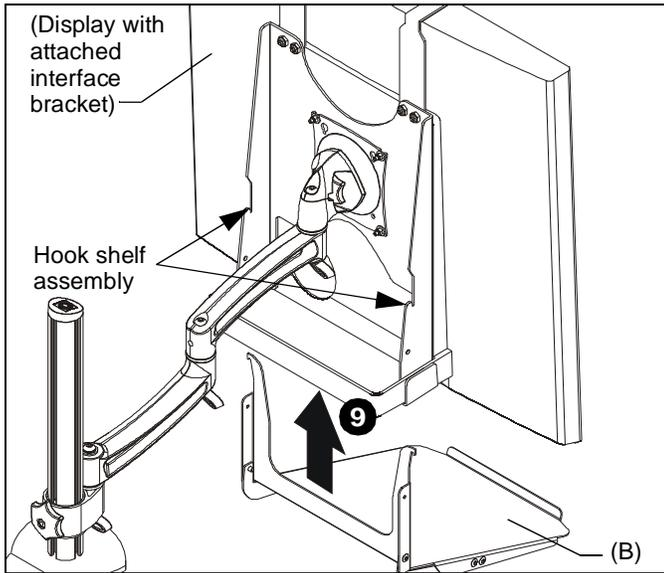

Figure 5
9. Lift shelf assembly (B) up from below display and hook onto interface bracket (A). (See Figure 5)